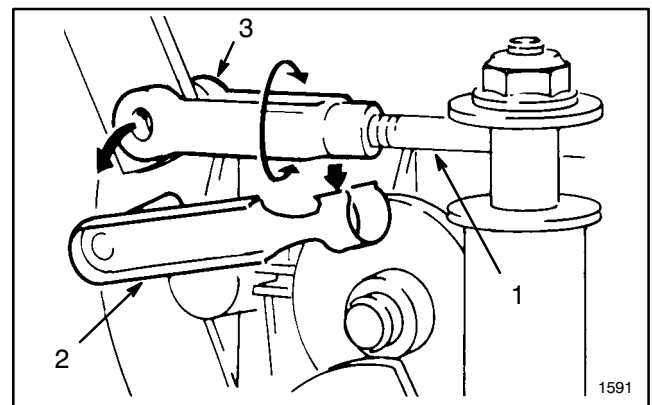

Figure 20
14. Locate deck engagement rod end on left side of transmission (Fig. 20). Remove clevis pin retainer and rotate clevis to lengthen or shorten rod until desired clearance between belt and pulley is attained.